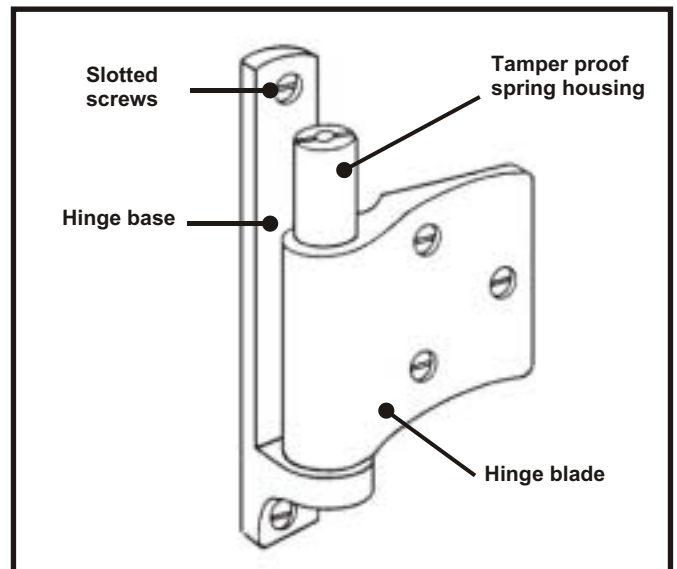

Fig. 3
- A. The spring compression of D-125 hinges (as shown in Fig. 3) is factory-set and never needs adjustment. The self-closing cam is factory-positioned for the proper closing force, and cannot be field-adjusted.